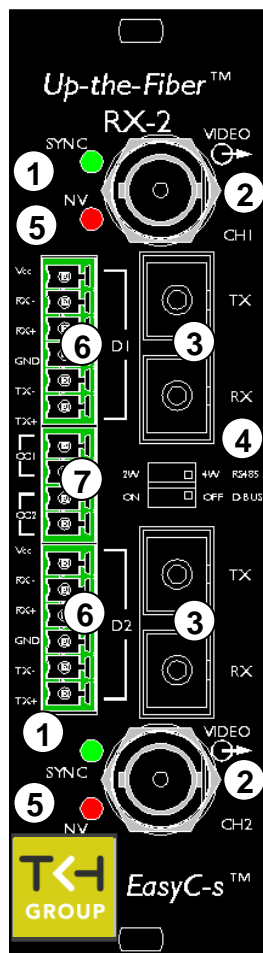

Figure 4.
The UTF receiver has the following indicators and connections (figure 4):
Before connecting the system, the RS-485 connection needs to be configured for 2-wire or 4-wire mode. This can be done with the upper switch (2W - 4W, see figure 4 pos. 4) on the front panel of the receiver. The positions are indicated on the front panel.
With the lower switch (D-bus, see figure 4 pos. 4) in the "ON" position, the external data going into the data input (see figure 4 pos. 6) is put onto the internal data bus, while a UTF receiver is then also enabled to such get data from this internal data bus. To minimise external wiring, the UTF models are fitted with EasyC-s™.